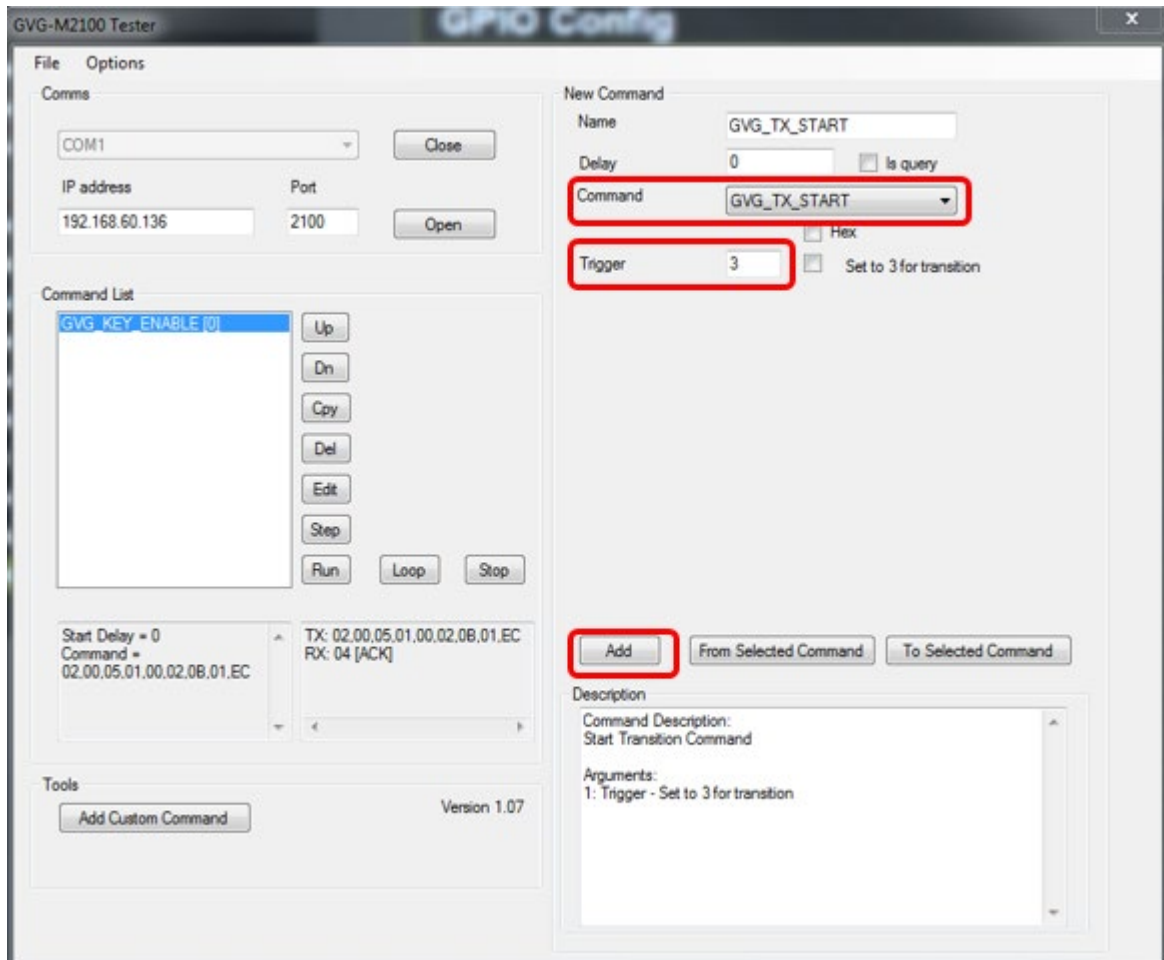

Figure 5-5: M2100 – Add Transition (from PVW to PGM) Command
- 4) In order to display the Keyer, also, through Program (PGM) output signals – odd SFP ports –, the ‘GVG_TX_START’ in ‘Command’ option must be selected. Type number ‘3’ in ‘Trigger’ and press ‘Add’ button, so the command will be moved/stored to the ‘Command List’ on the side of the window, as Figure 5-5.